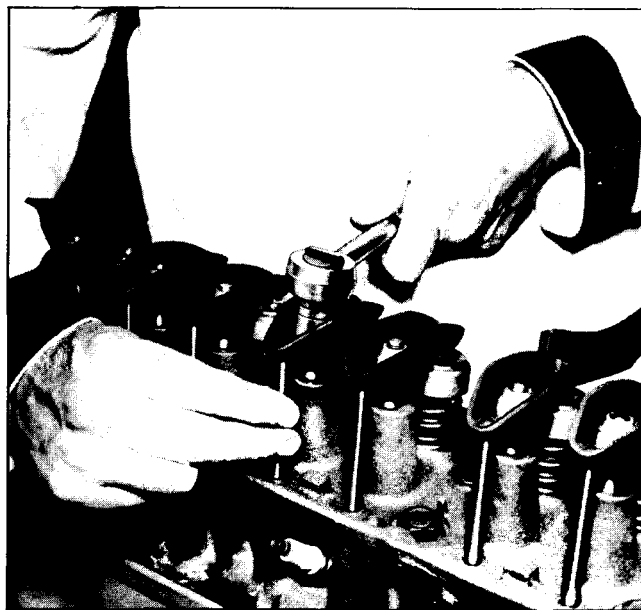

Fig. 6-105 Adjusting Valve Train Lash - 307 Engine
- b. Valve adjustment is made by backing off the adjusting nut (rocker arm stud nut) until there is play in the push rod and then tighten nut to just remove all push rod to rocker arm clearance. This may be determined by rotating push rod with fingers as the nut is tightened (Fig. 6-105). When push rod does not readily move in relation to the rocker arm, the clearance has been eliminated. The adjusting nut should then be tightened an additional 1 turn to place the hydraulic lifter plunger in the center of its travel. No other adjustment is required.